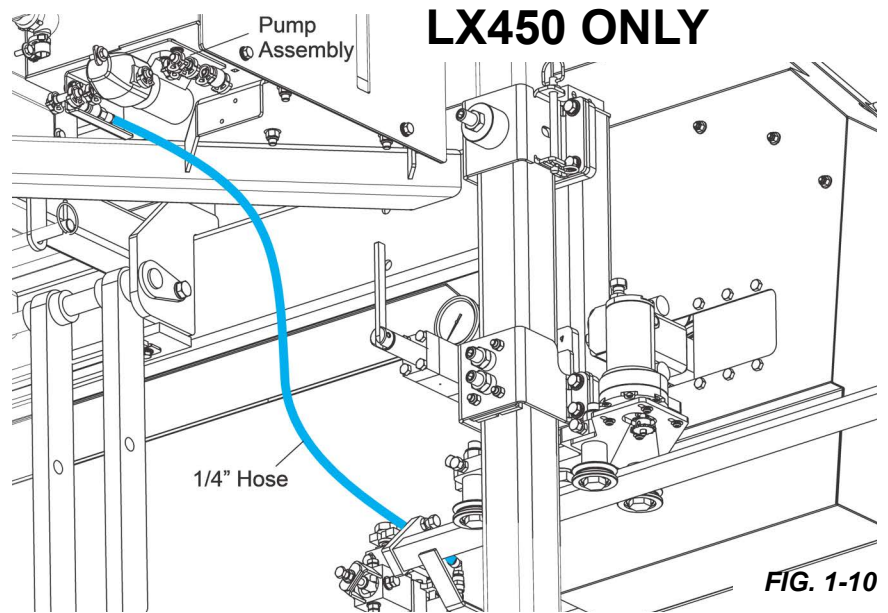

FIG. 1-10
5. Wrap the threads of the provided fittings, nozzles and plug with teflon tape (pipe tape) and install the components to the blade guide block as shown in FIG. 1-10. (An extra nozzle is provided for service replacement.)
3. Insert one end to the pump valve as shown in FIG. 1-10.